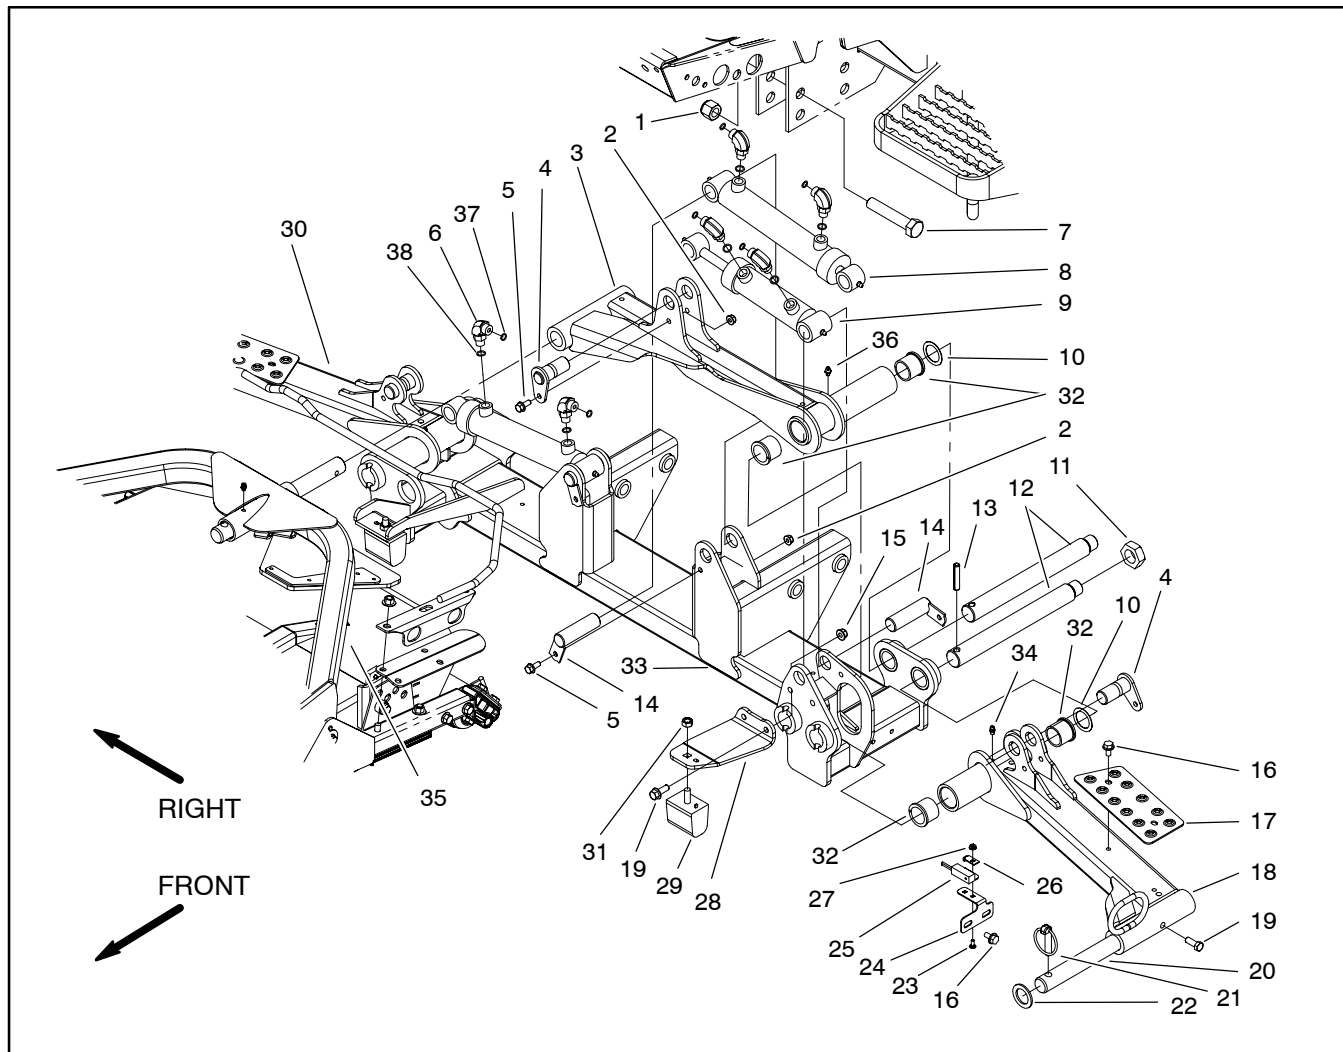

Figure 3
1. Position lift arm to frame (Fig. 3). Fit thrust washer between rear of lift arm and frame. Slide pivot pin into frame and lift arm. Align roll pin in pivot pin with slot in frame flange.